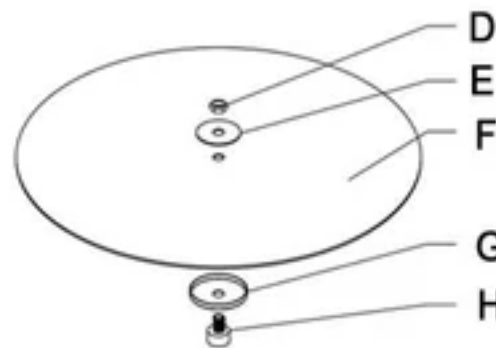

Fig. 1
2. Assemble Hex Nut(D), Washer(E), Lens(F), Decorative Plate(G) and Decorative Screw(H) in the order shown in Fig.1.